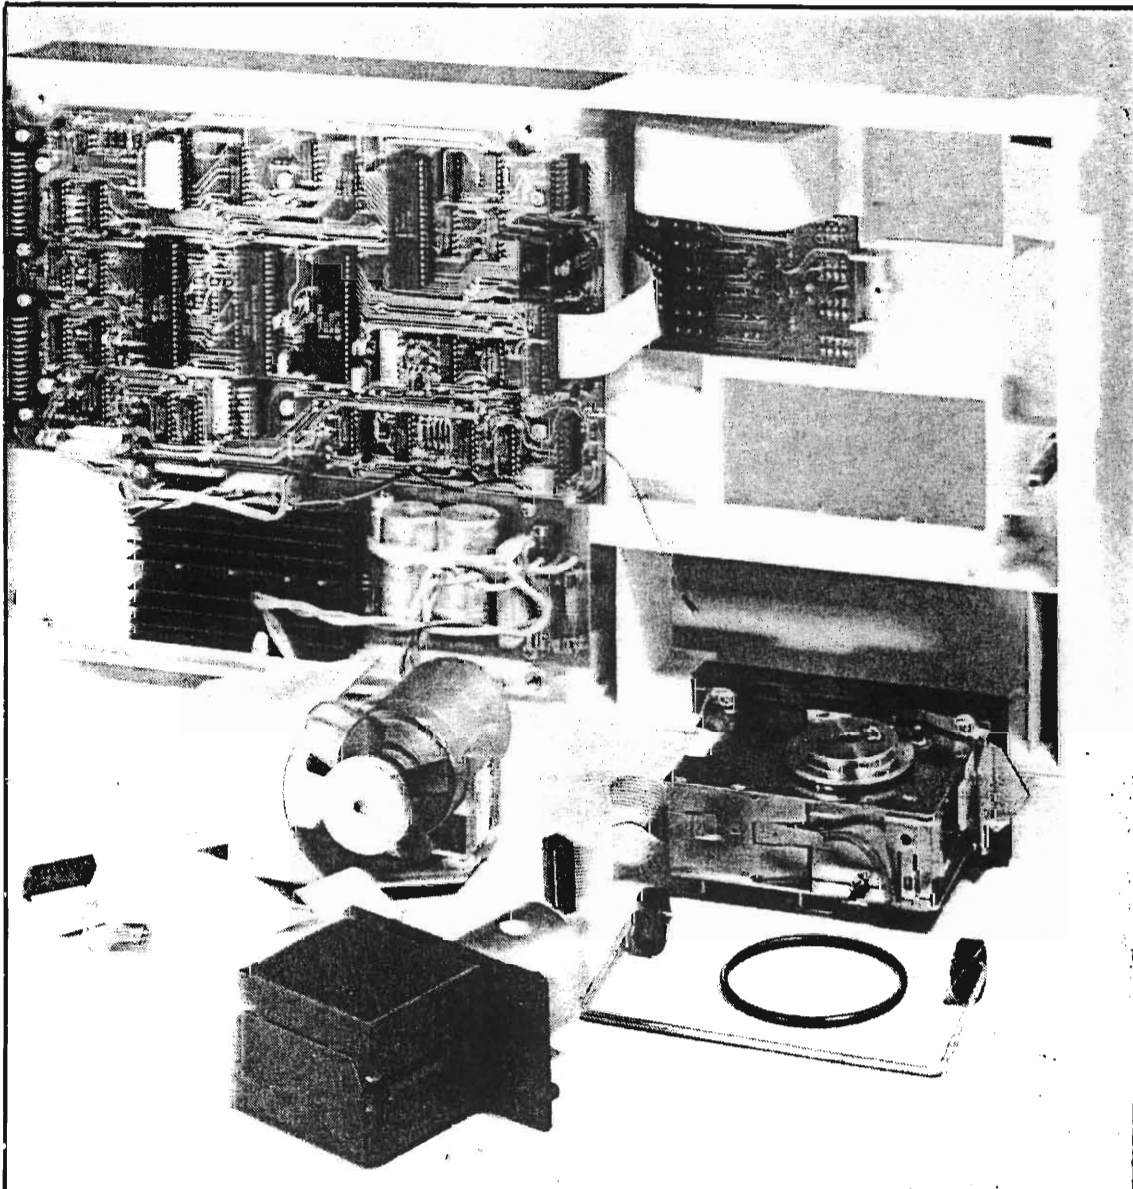

Fig. 6.3 Removing the motor, reader and control panel
**6.1.1.3 REMOVING THE MOTOR (Fig. 6.3)**
**6.1.1.4 REMOVING THE READER (Fig. 6.3)**
**6.1.1.5 REMOVING THE CONTROL PANEL (Fig. 6.3)**